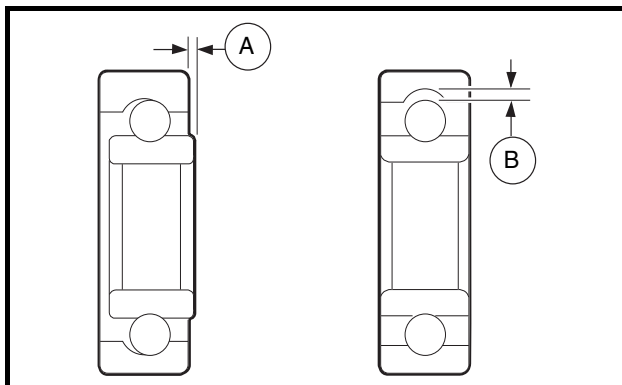

Figure 12-8 Bearing Play Inspection
1. Wipe the carbon dust from the two bearings. Inspect bearings by spinning them by hand and checking for both axial (A) and radial (B) play (**Figure 12-8, Page 12-5**).